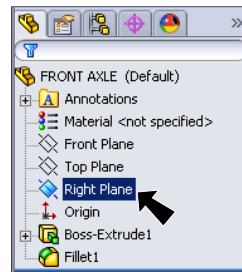

Fig. 9
Step 1. Click **Right Plane**  in the Feature Manager to select the Plane, **Fig. 9.**